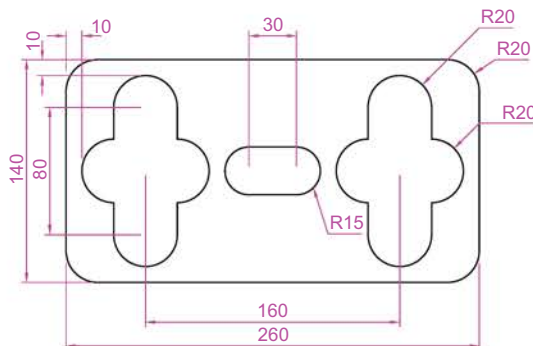

Fig. 6.44 Exercise 3
3. Using the tools **Polyline**, **Circle**, **Trim**, **Polyline Edit**, **Mirror** and **Fillet** construct the drawing Fig 6.44.